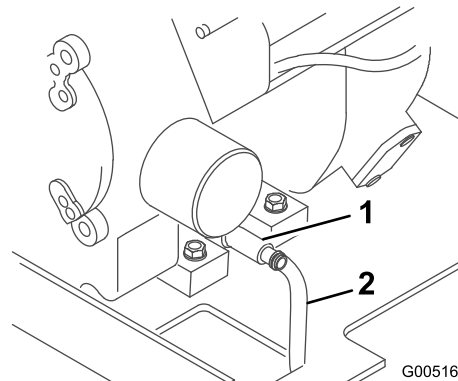

Figure 20
3. Place one end of a hose on the drain valve and the other end in a pan (Figure 20).
4. Open the drain valve by turning it counterclockwise, pulling out as you turn it (Figure 20).